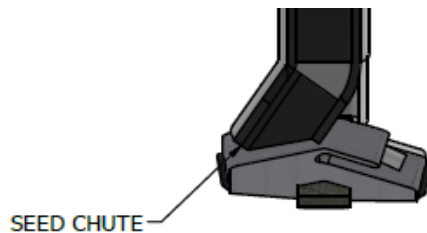

Figure 3: Seed chute on "left" opener
- 1) Bolt openers to shank using the provided $\frac{1}{2}$ " x $1 \frac{7}{8}$ " bolts and nuts. Once installed, the point will be underneath the shank. Mount the openers with the seed chute pointed towards the center of the drill (see Figure 3 below).
High-rate side band liquid and NH₃ openers must be installed with the seed chutes oriented to the center of the drill. A left opener will have the seed chute on the left side as seen in Figure 3.